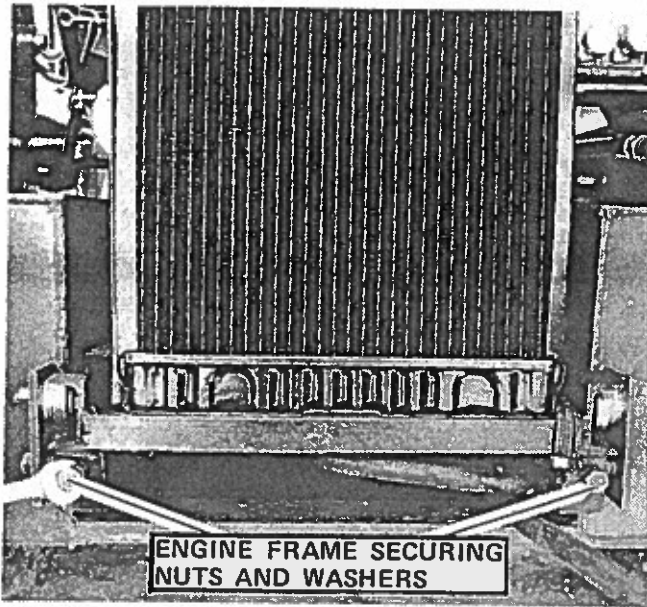

FIGURE 21
3. Remove the two engine frame securing nuts and washers, see FIGURE 21 (Loaders with gas engine are equipped with wing-nuts).